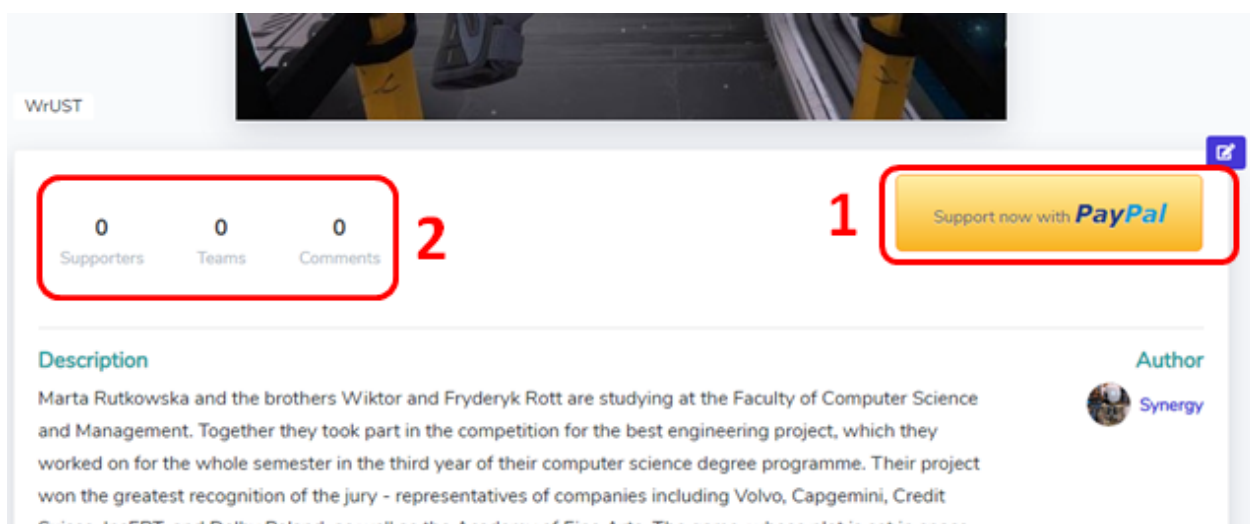

Fig. 11 Campaign’s support options 1
After selecting a campaign, the application redirects to its view (Fig. 11). By clicking the button “Support now with PayPal” (1) users can support a given campaign. To do so, the amount has to be entered in the field displayed after pressing the button. Also, some stats can be seen in the brief summary of the campaign (2).